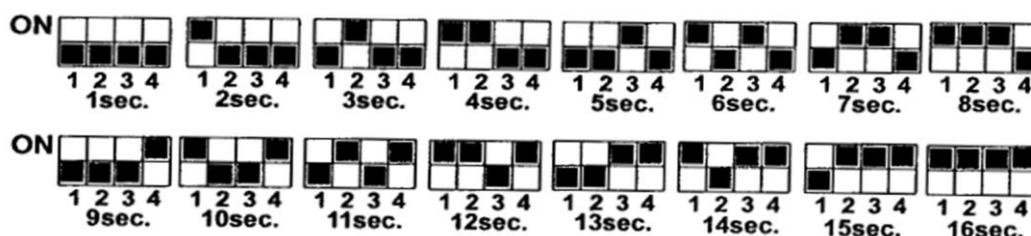

Figure 38: DSW1 and DSW2—DIP Switch Options for
- Set DIP switches DSW1 and DSW2 according to the time intervals measured in step 1. Figure 38 shows DIP switch positions for different time intervals.